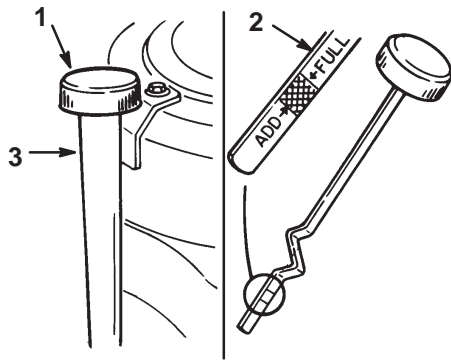

Figure 24
2. Clean around the oil dipstick (Fig. 24) so dirt cannot fall into the filler hole and damage the engine.
3. Unscrew the oil dipstick and wipe the metal end clean (Fig. 24).
4. Thread the oil dipstick fully onto the filler tube (Fig. 24). Pull the dipstick out and look at the metal end. If oil level is low, slowly pour only enough oil into the filler tube to raise the level to the “FULL” mark.
5. Slowly pour approximately 80% of the specified oil, page 27, into the filler tube (Fig. 24). Now check the oil level; refer to Checking Oil Level, page 27. Slowly add additional oil to bring to "FULL" mark on dipstick.